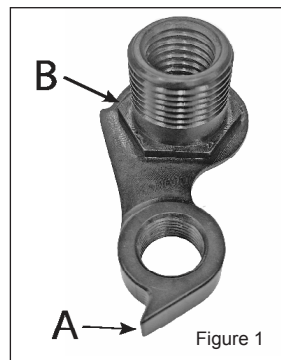

Figure 1
4. Note the position of the derailleur and how it fits with the tab on the derailleur hanger. (Figure 1-A)
7. Replace the R.A.T. derailleur hanger with the Robert Axle Project hanger. Lightly grease all threads, internal and external. Note the hanger has a hex shape that mates into the inside face of the frame. (Figure 1-B)
9. Reinstall derailleur to derailleur hanger. Pay attention that derailleur is properly seated against B-screw stop (Figure 1-A)